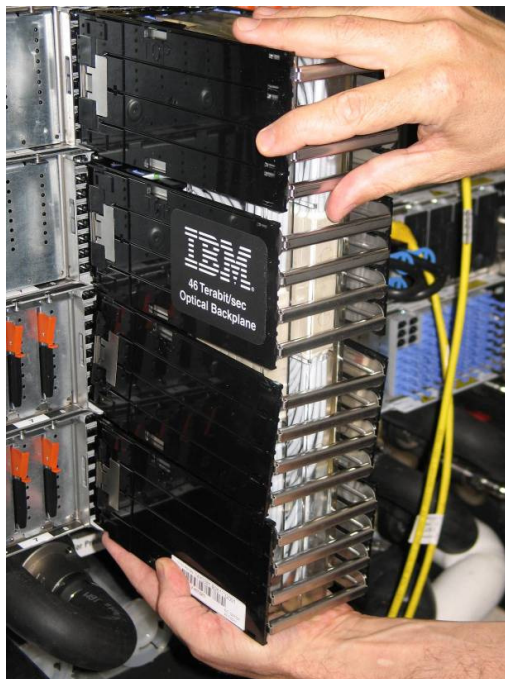

Figure 13 Support and remove OBE
- STEP 12 Being sure to support the OBE from below, remove the optical backplane enclosure from the CEC drawers (see **Figure 13**).